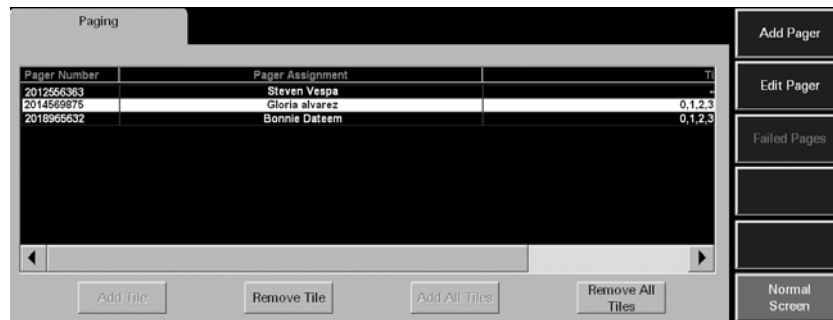

FIGURE 15-2 Paging Tab
3. The **Paging** tab (shown in FIGURE 15-2) is displayed after the correct password is entered.
2. If the **Paging** password tab is displayed, enter the password in the **Password** text box. The **Paging** tab is displayed (shown in FIGURE 15-2).